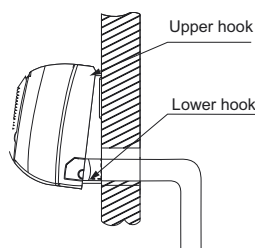

Fig. 22 — Indoor Unit Installation
8. Push the lower part of indoor unit up on wall, then move indoor unit from side to side, up and down to check if it is hooked securely (see Fig. 22).